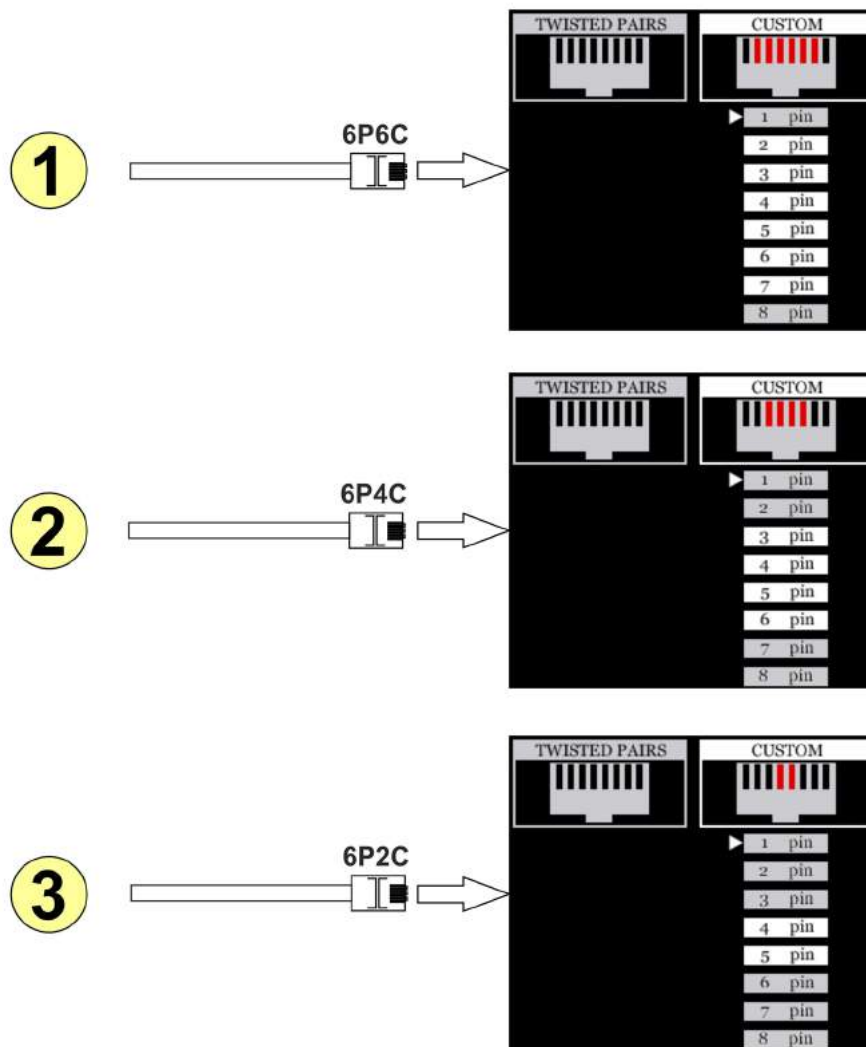

Fig.50
Fig. 50 exemplifies settings when a flat or circular cable is connected, that consists of 'non-paired' wires (as opposed to twisted pairs) and is equipped with a 6P6C plug. Cables of this kind may be used for communications in an office environment.
Fig. 50 (1) shows the connection of a 6-core cable equipped with a 6P6C plug. In "**CABLE SETTINGS**" set "**CUSTOM**" for cable type, and **2,3,4,5,6,7** for the numbers of contacts connected to the socket of the Electronic Switch.
Fig. 50 (2) shows the connection of a 4-core cable equipped with a 6P4C plug. In "**CABLE SETTINGS**" set "**CUSTOM**" for cable type, and **3,4,5,6** for the numbers of contacts connected to the socket of the Electronic Switch.
Fig. 50 (3) shows the connection of a 2-core cable equipped with a 6P2C plug. In "**CABLE SETTINGS**" mode set "**CUSTOM**" for cable type, and **4,5** for the numbers of contacts connected to the socket of the Electronic Switch.
Set the cable parameters (2.5.1.1) as shown in Fig.50 (2).